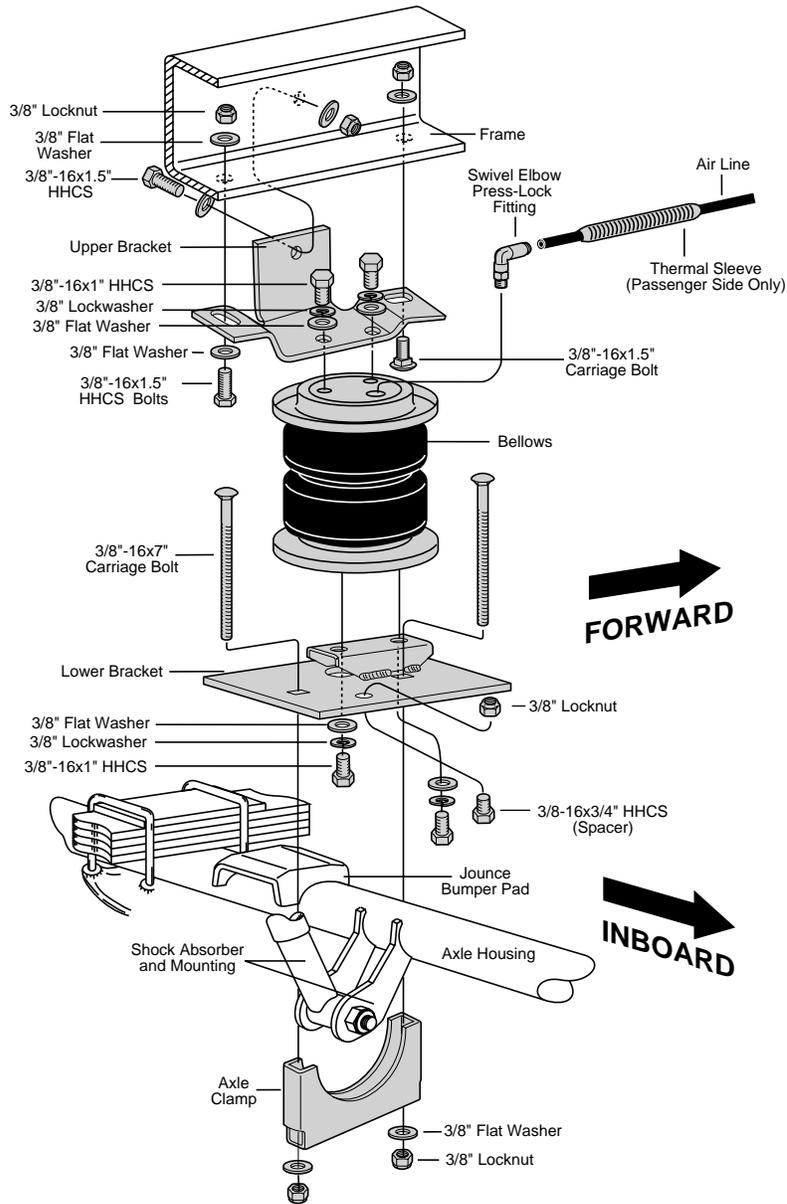
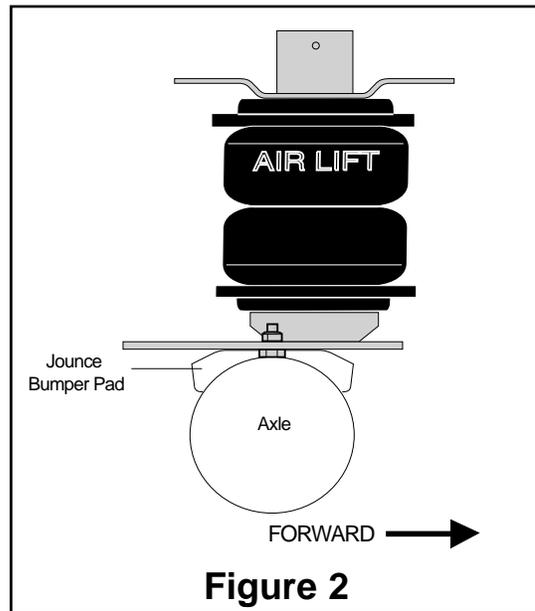

FIGURE 1
Figure 2
2. Lower axle or raise frame an additional 2 - 3 inches to provide clearance when positioning air spring assembly. **NOTE: IF THE VEHICLE IS EQUIPPED WITH A FACTORY SWAY BAR, IT WILL BE NECESSARY TO SET THE LOWER AXLE CLAMP IN PLACE BEFORE LOWERING AXLE (FIGURE 1).**
5. A spacer is required so that the lower bracket sits level on the axle housing/jounce bumper pad. Insert 3/8-16x3/4" HHCS bolt through lower bracket and secure with 3/8" lock nut (Figure 1). The spacer should sit inboard of the jounce bumper pad (Figure 2).
6. Put the 3/8-16x7" carriage bolts into the rectangle holes in the lower bracket. Attach the bellows onto the upper and lower brackets using the round holes with the 3/8"-16x1" mounting bolts, flat washers, and lock washers. **There are right and left hand units (marked).** Tighten to 15-20 ft-lbs. (Figure 1).
7. Place the assembly on the axle housing, guide the carriage bolts through the axle clamp and align so that the bellows follows the natural arc of the suspension travel. Attach lower bracket to axle housing loosely using axle clamp, flat washers and locknuts (Figure 1 &4).
9. With the upper bracket in this position, and using the bracket as a template, mark and drill the 3/8" hole on the OUTBOARD side of the frame rail through the upper bracket. Install the 3/8-16x1.5" HHCS bolt, flat washer and locknut and tighten to 20 ft.lbs. Tighten the two bolts previously installed (Figure 1).
TO PREVENT AIR LINE FROM MELTING, KEEP IT AT LEAST TWELVE INCHES FROM EXHAUST SYSTEM. USE THERMAL SLEEVE ON EXHAUST SIDE (FIGURE 1).